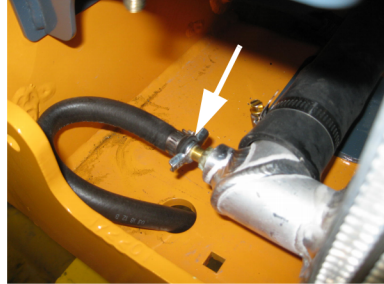

Figure 22 Radiator Drain Cock
5. Open the drain cock on the radiator (Figure 22) and drain the coolant into a suitable container.